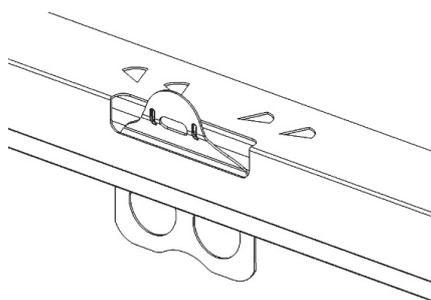

Fig. 6-7 Steel-strip buckle.
- ◆ When dismantling the enclosures, with respect to the steel-strip wooden boxes, first bend the steel-strip buckle to the shape shown in Fig. 6-7 by using pliers or other hardware tools. For the wooden boxes nailed with wooden nails, first dismantle the upper enclosure together with the nails, then dismantle the other enclosures, and protective cotton gloves shall be worn during operation to prevent scratches.